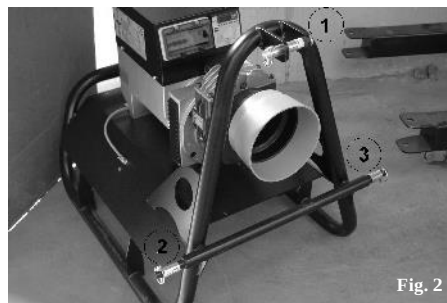

Fig. 2
8.2 Carefully mount the genset using the three-point hitch and delivered pins. Any mistakes in installation can cause damage for which the manufacturer will not be responsible – fig. 2.